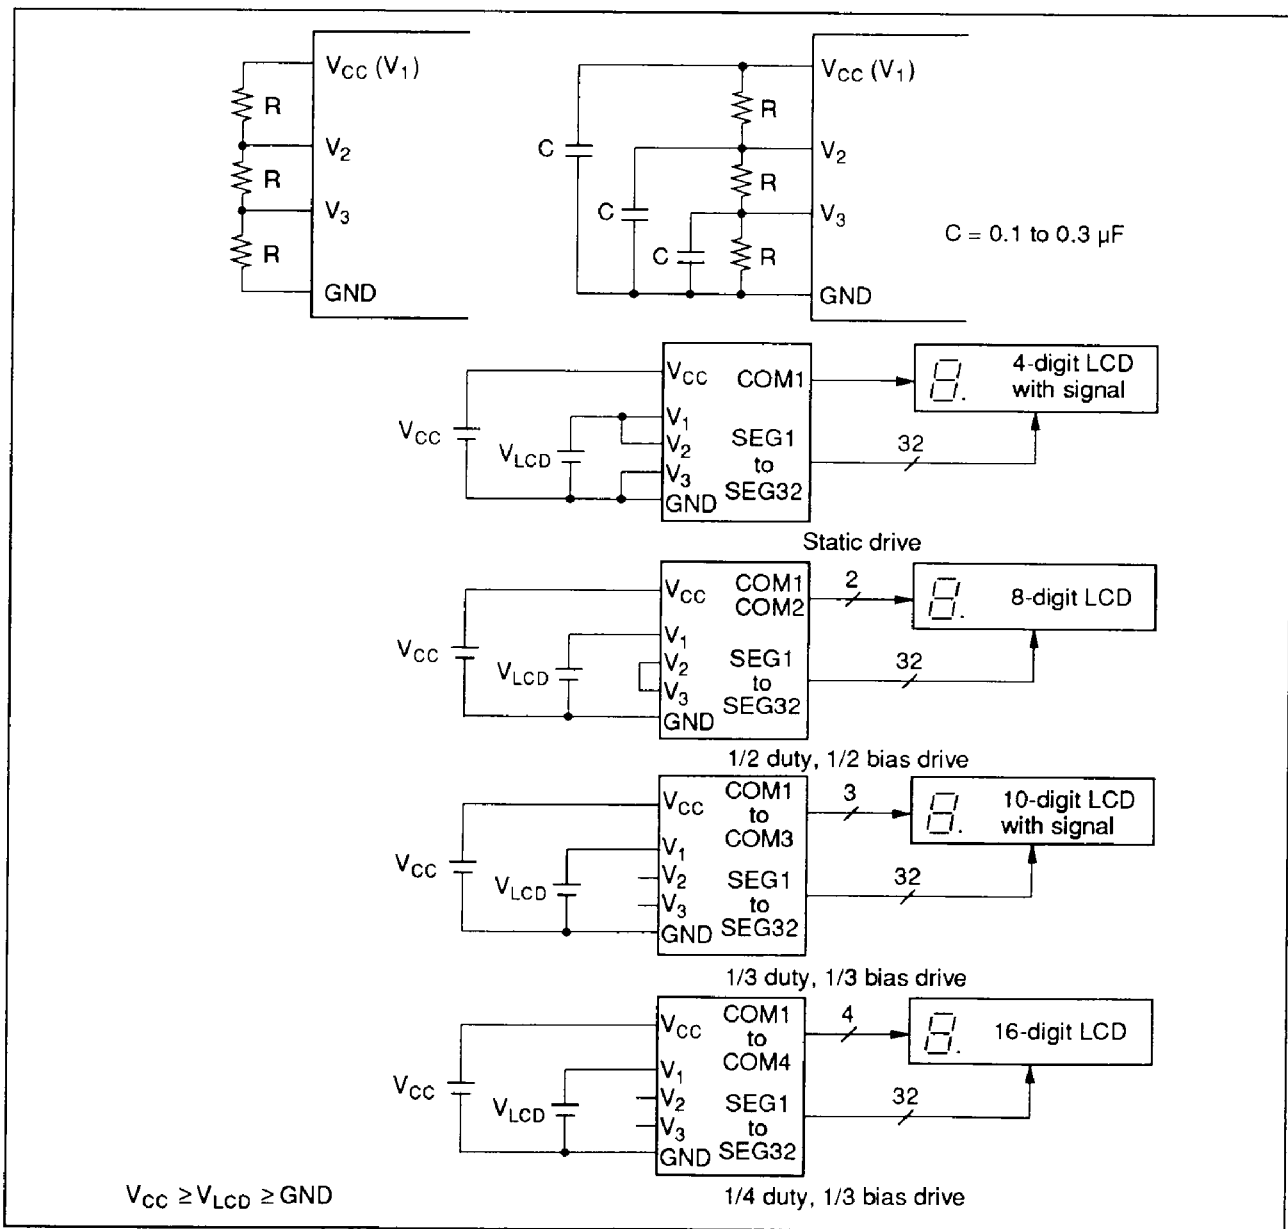

Figure 25 Examples of LCD Connections
**Large LCD Panel Driving and Driving Voltage ( $V_{LCD}$ ):** When using a large LCD panel, lower the dividing resistance by attaching external resistors in parallel to the internal dividing resistors (see figure 25).
Figure 25 shows a connection when changing the liquid crystal driving voltage ( $V_{LCD}$ ). In this case, the power supply switch for the dividing resistors (power switch) must be turned off. (Bit 1 of the LCR register is 0.)